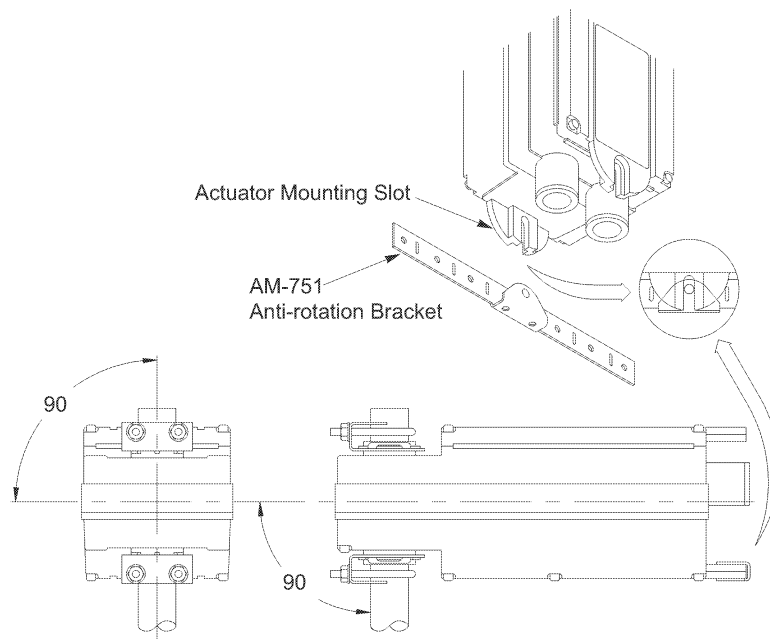

Figure-12 Mounting Anti-rotation Bracket to Actuator.
4. Align the actuator at 90° (perpendicular) to the damper shaft. See Figure-12.
5. Slide the anti-rotation bracket pin into the mounting slot on the actuator and drill mounting holes. See Figure-12. For narrow spaces, the AM-752 anti-rotation bracket is recommended (order separately).
7. Slide the anti-rotation bracket pin into the mounting slot on the actuator. See Figure-12. For narrow spaces, the AM-752 anti-rotation bracket is recommended (order separately).